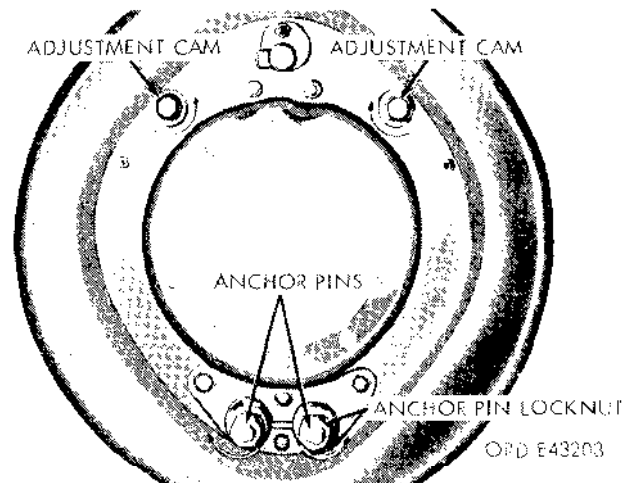

Figure 2-181. Back side of backing plate assembly.
(e) Loosen the rear anchor pin locknut (fig. 2-181) at the back side of the backing plate.
(1) While holding anchor pins (fig. 2-181) to prevent them from turning, tighten both anchor pin locknuts and check the brakeshoe clearance again.